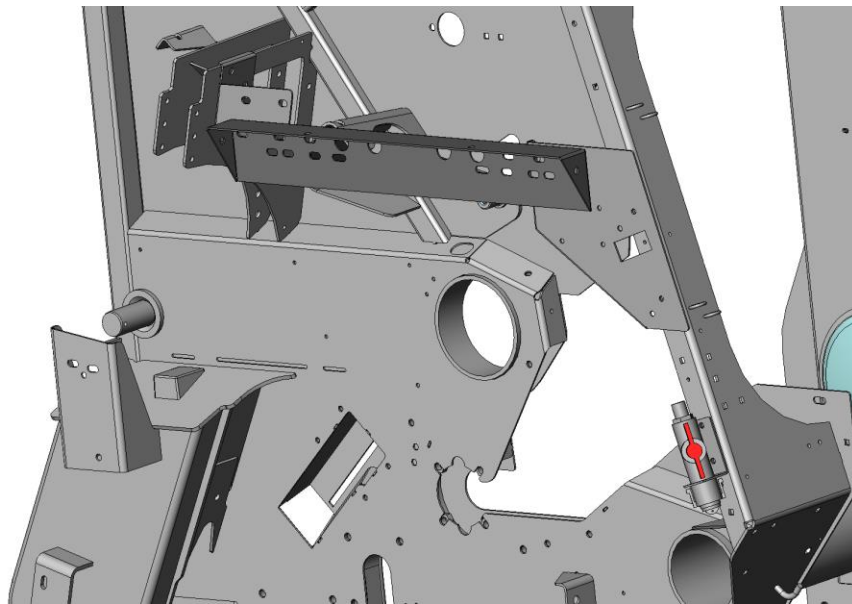

Figure 13
2. Use two 3/8" x 3/4" hex bolts, flat washers, lock washers, and nuts to secure Pump Plate Bracket (001-4703XF) to back side of Pump Mounting Bracket (001-4646C). Use holes **3 and 4** as designated in Figure 13 on the Pump Plate Bracket (001-4703XF). Slide the Pump Plate Bracket (001-4703XF) so it touches the door support bracket.